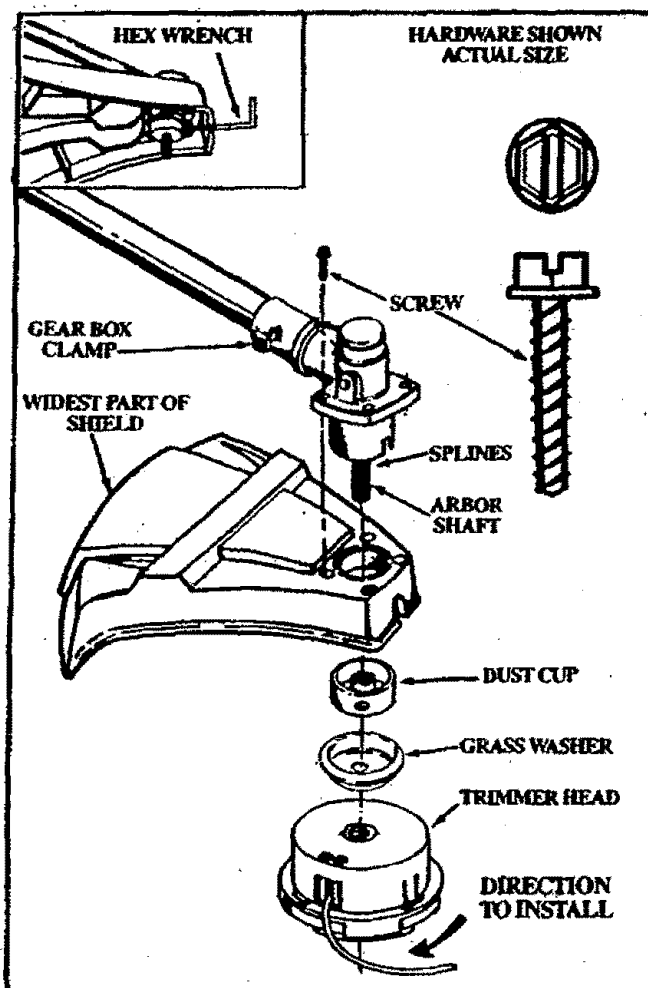

Figure 8
4. SHIELD — Figure 8
Failure to install the shield in the position shown in Figures 8 and 9 can result in serious injury to the operator. The length of the shield must be aligned with the length of the drive shaft housing. Direct the widest part of the shield toward the engine.
- Remove the packing cover and Dust Cup from the Arbor Shaft. Figure 8.
- Place the Shield on the Gear Box, aligning screw holes. Figure 8. Make sure the Shield is directed
5. TRIMMER HEAD — Figure 8
- b. Install the Grass Washer over the Arbor Shaft. Make sure the Washer is against and curved over the Dust Cup. Figure 8.
- c. Thread the Trimmer Head onto the Arbor Shaft as shown in Figure 8.
- d. Line up the hole in the Dust Cup with the hole in the center front of the Gear Box by turning the Trimmer Head. Insert the small hex wrench into the aligned holes to keep the Arbor Shaft from turning. See Inset, Figure 8. (inset, upper left).